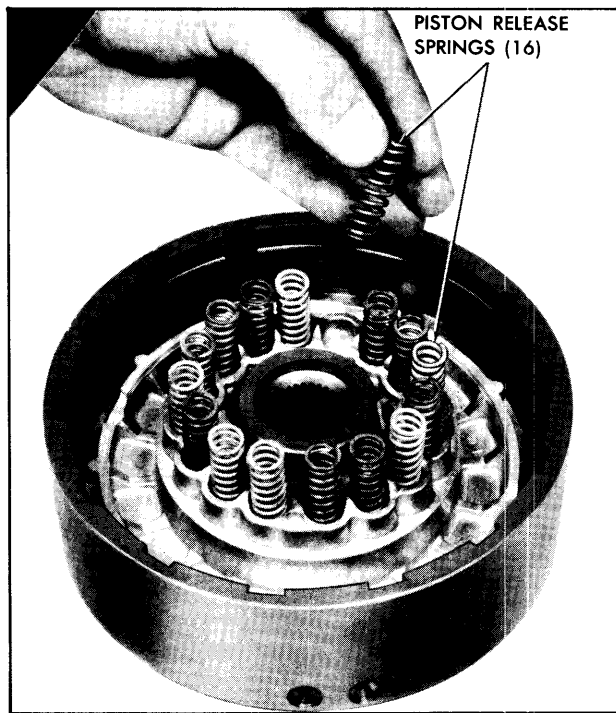

Fig. 7E-159 Installing Piston Release Springs
3. Place seal protector Tool J-21362 over clutch hub. Install outer clutch piston seal protector J-21409 into clutch drum and install piston, rotating the piston on the drum until seated. (Fig. 7E-158)